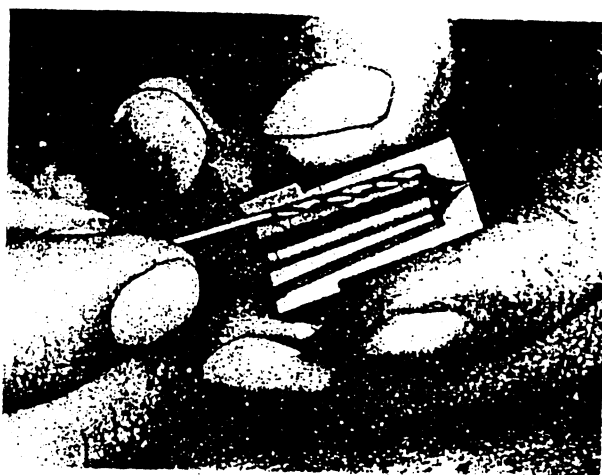

FIG. 127.
2. Clean out the three drillings that feed the lower resevoir in the nozzle body either with a piece of wire or a No. 51 twist drill (0.66" dia.), see Fig. 127. These bores are rarely choked and the insertion of the drill or wire by hand will be sufficient. If, however, they do contain a heavy carbon deposit, it is advisable to use a  $\frac{1}{16}$ " diameter drill, also by hand, first.